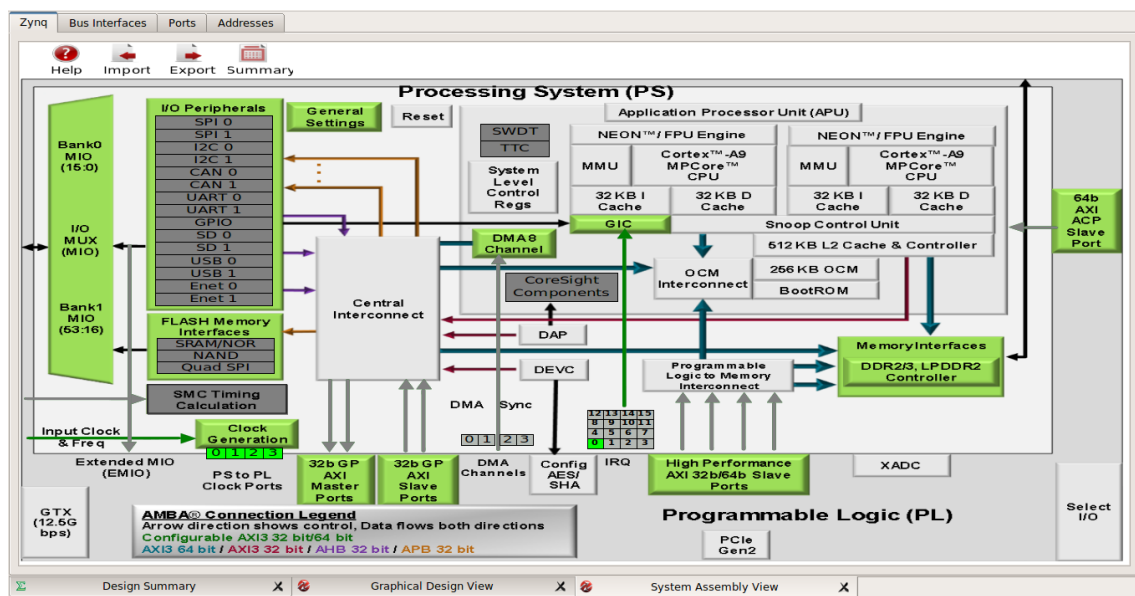

Figure 4.4.: XPS with Zynq tab
6. You should now see new processing_system7 IP in the *System Assembly View*. In this view, there are four tabs available at the top: *Zynq*, *Bus Interfaces*, *Ports*, *Addresses*. The *Zynq* tab shows the configuration of the PS. The gray color on I/O Peripherals means that none of the IO peripherals are configured and are in their default state (Figure 4.4)